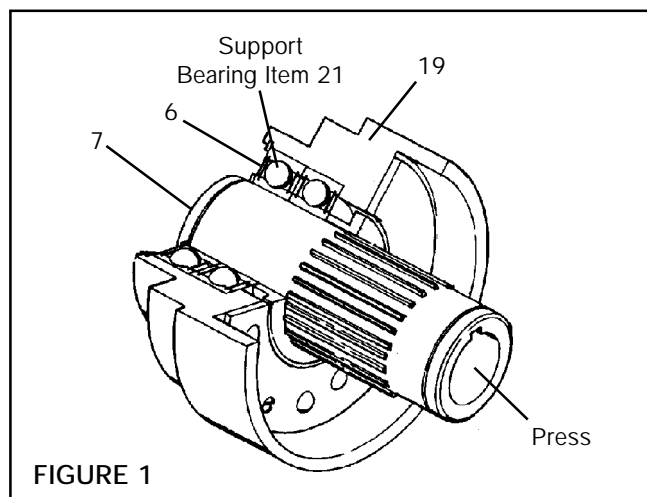

FIGURE 1
2. Install Retaining Ring (Item 6) onto Drive Flange end of DC Series Clutch. (See Fig. 1).